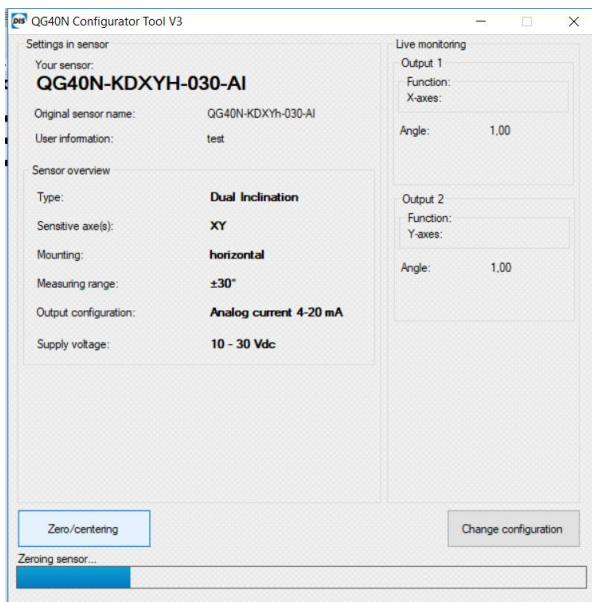
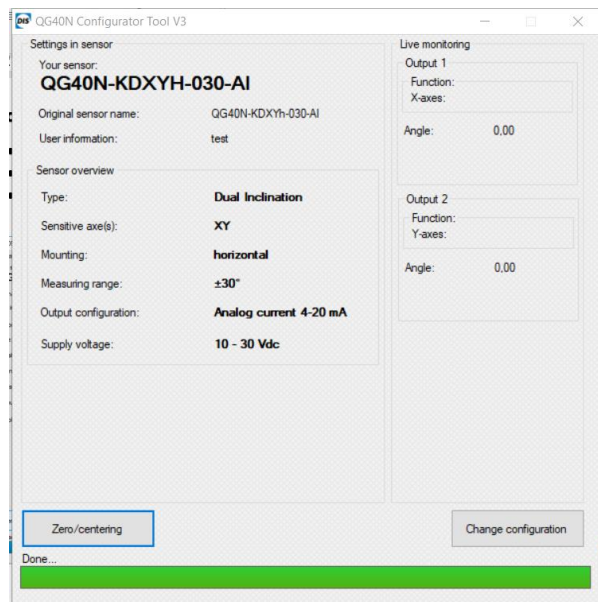

Figure 5. Sensor zeroing
Figure 6. Zero position is set
- The progress bar shows the status(Figure 5). When the zero position is set, you'll see the output is changed to 0.00 on the live monitoring(Figure 6).